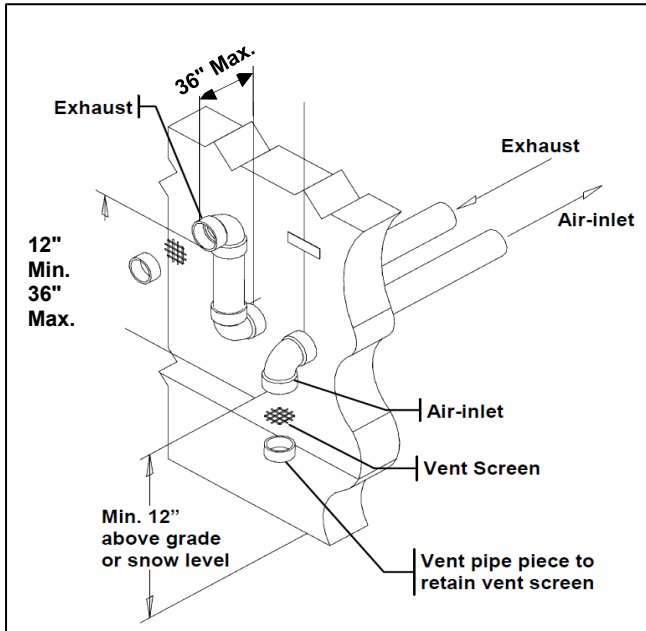
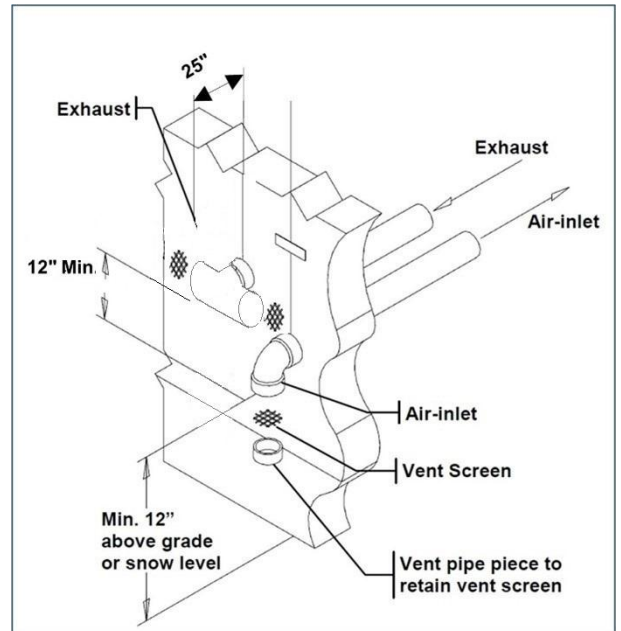

Figure 10.14
Figure 10.15
3. When using two pipe terminations the air intake piping must terminate in a 90 degree down-turned elbow as shown in Figure 10.14, 10.15 or 10.16. This arrangement avoids recirculation of flue products into the combustion air stream.
4. The exhaust piping must terminate horizontally in a section of straight pipe or an elbow pointed outward or away from the air inlet, as shown in Figure 10.14 or 10.16. A tee termination is also acceptable, as shown in Figure 10.15.
Do not extend the vent pipe outside the sidewall beyond the dimensions shown in Figures 10.14, 10.15, 10.16, 10.18, 10.19 and 10.20. Extended exposure of the vent pipe could cause condensate to freeze and block the vent pipe, resulting in substantial property damage, serious injury, or death